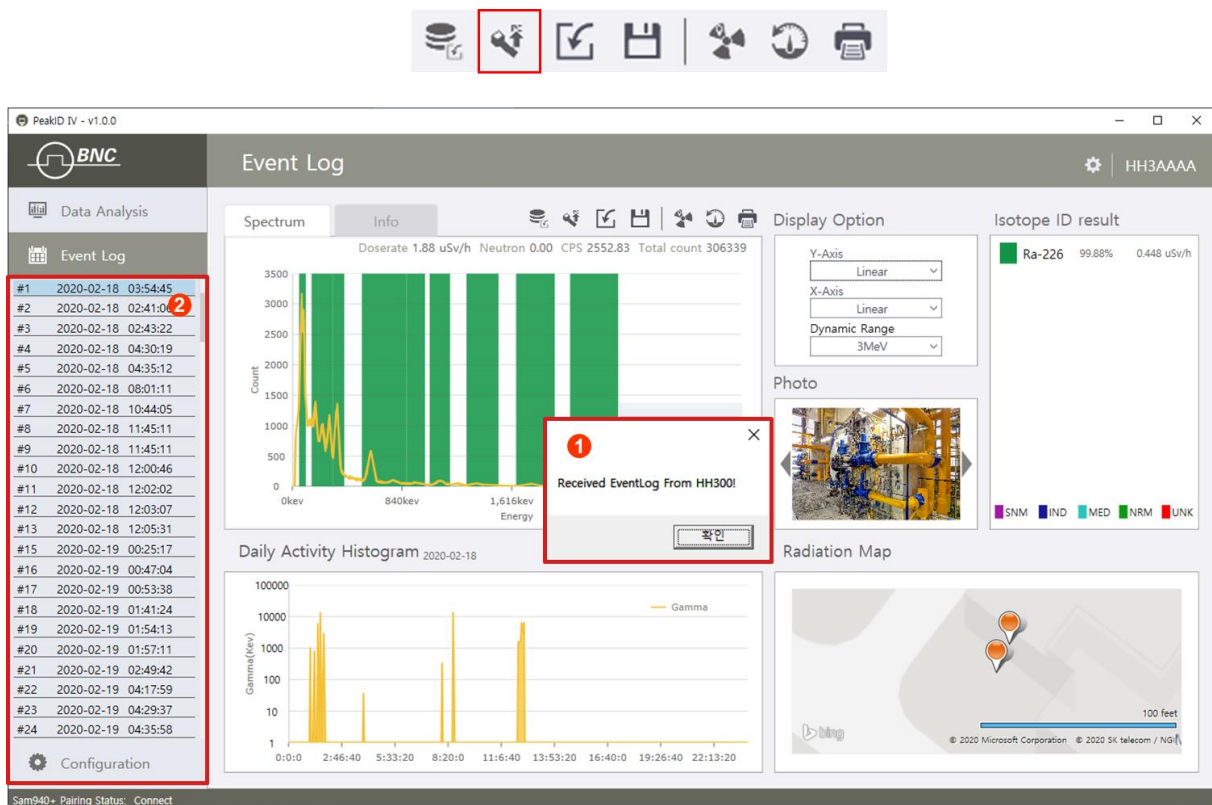

Figure 7.8.3. Download from the SAM940+ example
3. Click **Load from SAM 940+ ic** . Download confirm message window is popped up as shown in figure 7.8.3. ①